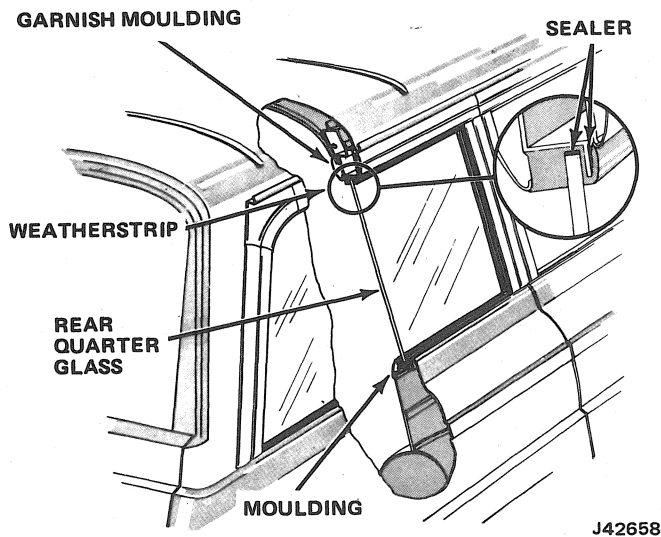

Fig. 3K-2 Rear Quarter Window—Cherokee-Wagoneer Models
(1) Remove interior garnish mouldings from around window and break seal loose between weatherstrip and body panels (fig. 3K-2).